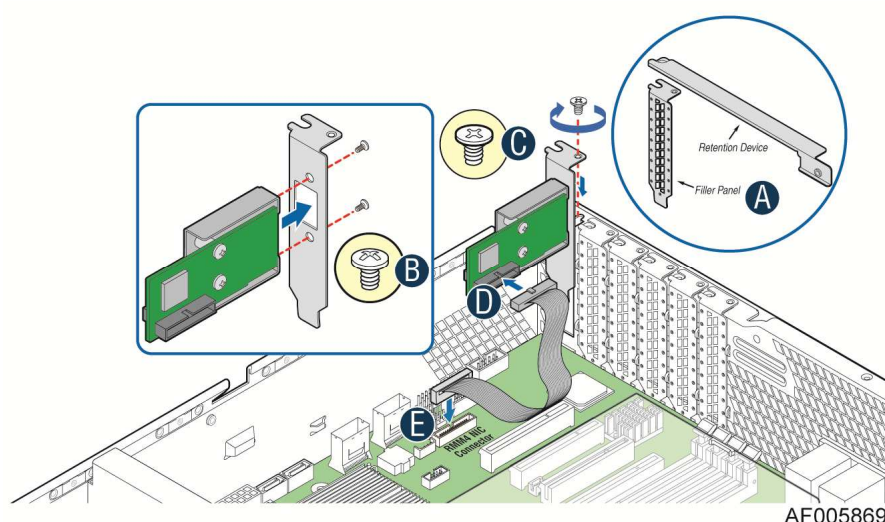

Figure 12: Installing the Intel® Dedicated Server Management NIC Module in the Intel® Server System R2000FP Family or R2000SC Family
3. Remove the Filler Panel and Retention Device. See **A** in Figure 12.
4. Secure the metal fastening bracket with the NIC module to the PCI slot bracket with two screws as shown in **B** of Figure 12. This will align the RJ-45 with the opening in the PCI slot bracket.
5. Fasten the bracket with one screw as shown in **C** of Figure 12.
6. Connect one end of the cable to the connector on the Intel® Dedicated Server Management NIC module as shown in **D** of Figure 12.
7. Connect the opposite end of the cable to the Intel® Dedicated Server Management NIC connector on the Server board as shown in **E** of Figure 12.